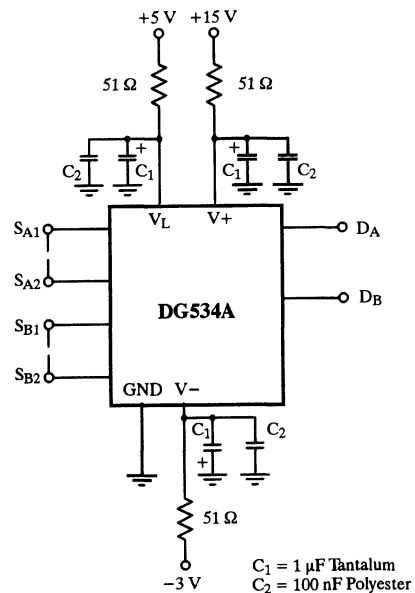

Figure 14. DG534A Power Supply Decoupling
- Additional high frequency protection may be provided by 51- $\Omega$  carbon film resistors connected in series with the power supply pins (see Figure 14).